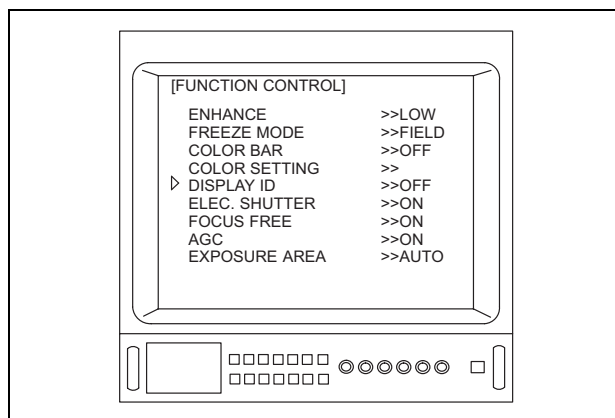

Figure 5.54
4. Depress the menu switches “” or “”, or the “/↓/←/→” key on the keyboard to move the arrow “” to “DISPLAY ID” (see Figure 5.54).
- When the OTV-S7V is connected to the ENF-V, CYF-V/VA or HYF-V, “ELEC. SHUTTER” and “EXPOSURE AREA” shown in Figures 5.54 and/or 5.55 are not displayed.
- When the OTV-S7V is connected to the LTF-V3 or A500**A series, “EXPOSURE AREA” shown in Figures 5.54 and/or 5.55 is not displayed.
- When the OTV-S7V is connected to a camera head without the focus free function, or to a videoscope, “FOCUS FREE” shown in Figures 5.54 and/or 5.55 is not displayed.
- Depending upon the OTV-S7V’s settings, the menus shown in Figures 5.54 and/or 5.55 may appear different from those displayed on the video monitor.